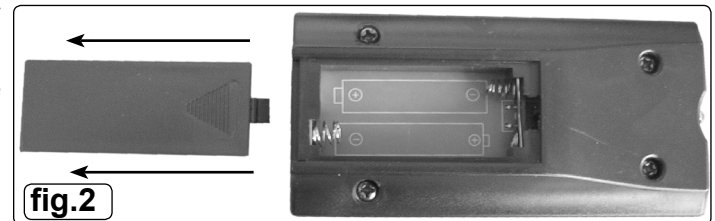

fig.2
- 4.8. To change the remote batteries, press down and push back the battery cover (fig.2), remove old batteries and replace with two new AAA batteries.